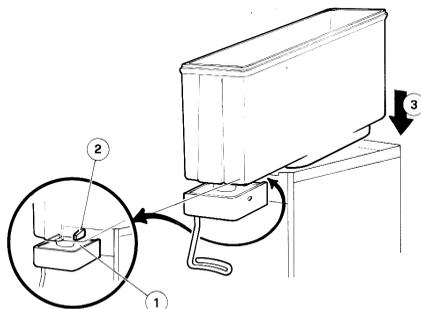

figure 8
4 Fit the bowl gasket to the evaporator. Note: the largest brim of the gasket must face against the drip plate (see figure 8).
**CADDY 5/2 - 5/3 - 5/4:** be sure first that the faucet top (1) is under the tooth jutting (2) out of the drip plate (see figure 8).